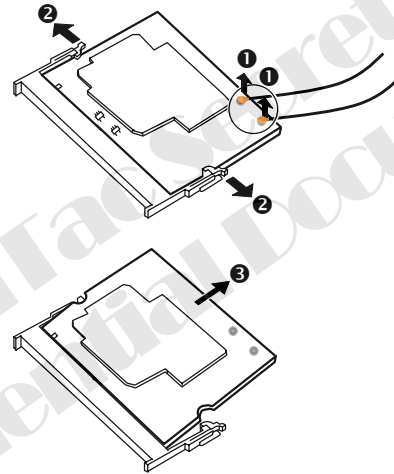

Figure 2-13 Remove the Wireless card
3. Disconnect the wireless card's antennae first (❶). Then pull the retaining clips outwards (❷) and remove the wireless card (❸). (Figure 2-13)